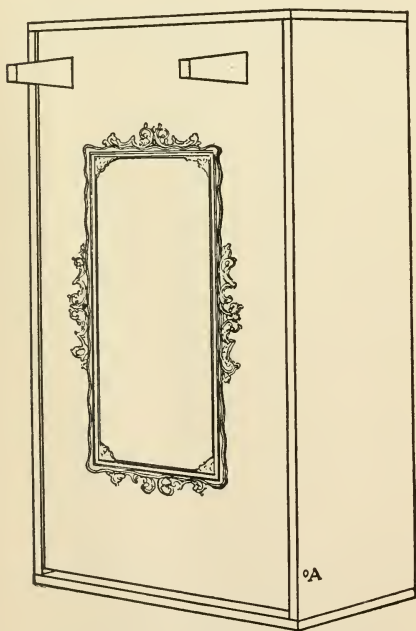

FIG. 139. — A Doll's Folding-bed.
In Figs. 139 and 142 will be found some pieces of furniture that are simpler to make than that just described, and although they may not be so pretty, they present a very good appearance when neatly made.
**A Folding-bed**, such as is shown in Figs. 139 and 140, select two cigar-boxes, one of which will fit inside the
larger one, as shown in Fig. 139, so that the bottom of the inner box is flush with the edge of the outer box. Then drive a brad through both boxes on each side, about three-quarters of an inch from the end as shown at *A* (Fig. 139). These brads should run through the outer box into the bottom of the inner box, and should be driven in carefully so as not to split the wood. The inner box should now fold down as shown in Fig. 140,